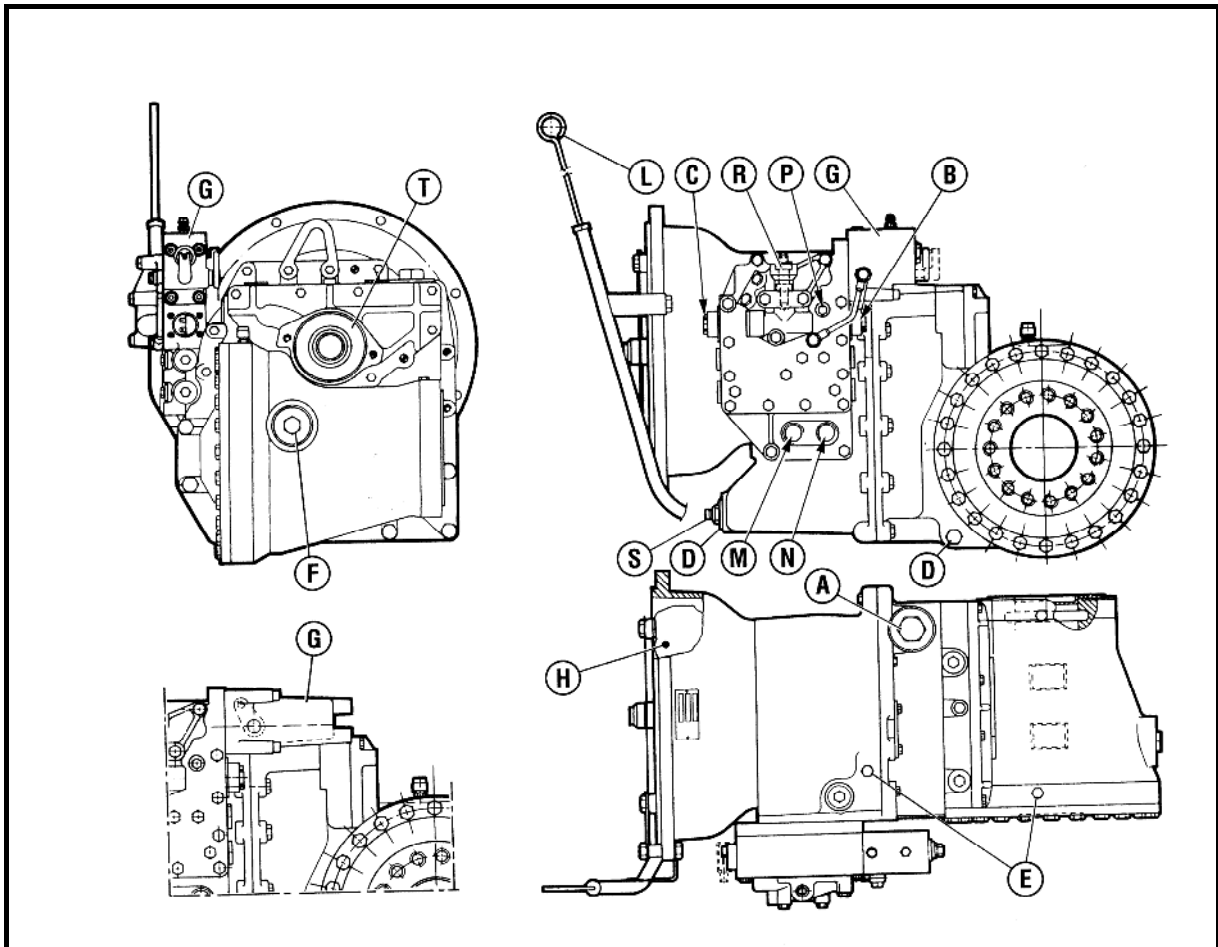

Figure 6.1 | The transmission
1. After each 10 hours of processing, check the oil level with the oil level stick (see L in Figure 6.1). If necessary, fill up the oil level (see A in Figure 6.1).
1. Remove the oil filter (see P in Figure 6.1)
2. Change transmission oil. First, drain the used oil by the outlet under the differential gear (see D in Figure 6.1)
3. Wash and dry-up the induction filter from the pump (see A in Figure 6.1)
1. Replace the oil from the transmission. First, drain the used oil by the outlet under the differential gear (see D in Figure 6.1)
3. Check the oil level from the differential gear (see F in Figure 6.1). If necessary, fill up (see F in Figure 6.1).
1. Replace the oil from the differential. First, drain the used oil by the outlet under the differential gear (see D in Figure 6.1).